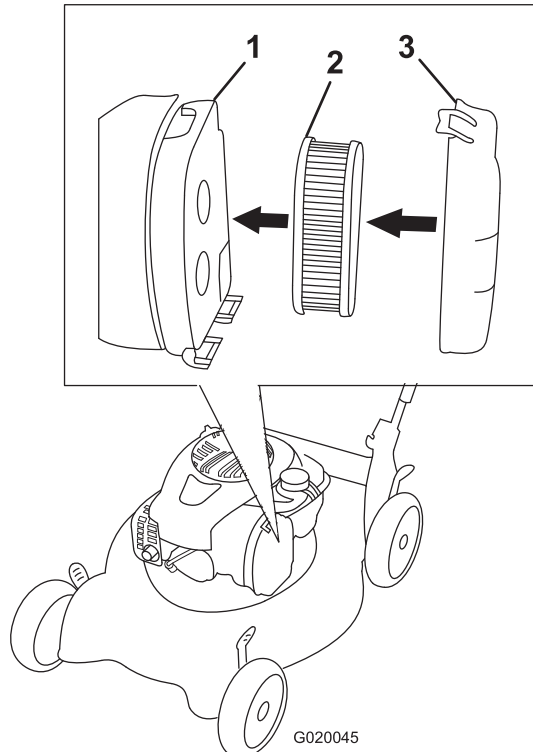

Figure 15
2. Press the button on the air cleaner cover (Figure 15) and open the cover.